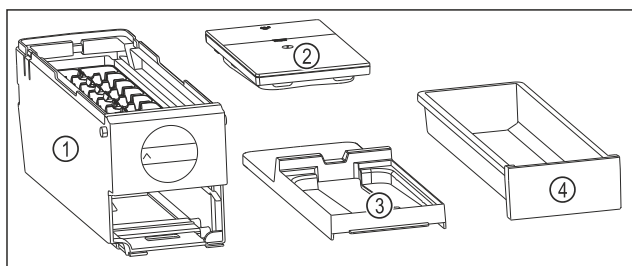

Fig. 87 Components of the EasyTwist-Ice
- ▷ EasyTwist-Ice is dismantled into four parts. (see Fig. 87)
- Only dismantle the EasyTwist-Ice into the components shown. (see Fig. 87)
- Clean the EasyTwist-Ice body Fig. 87 (1) as a whole.